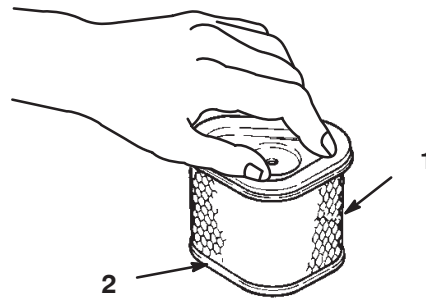

Figure 18
1. Lightly tap the element on a flat surface to remove dust and dirt (Figure 18).